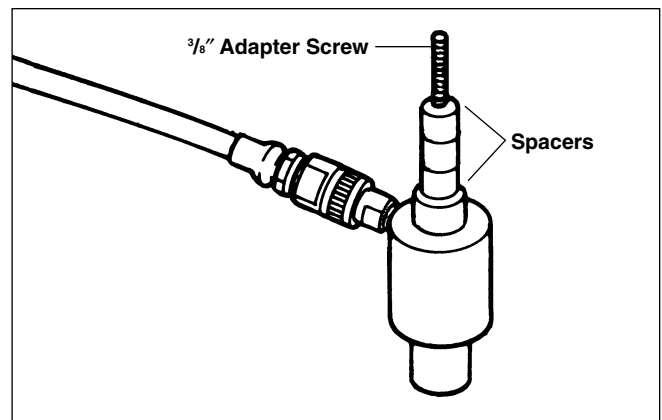

Figure 2 – Set-Up For 1/2" Holes
4. Place three spacers over the 3/4" draw bolt starting with the shortest and continuing with medium and long spacers (Figure 2).